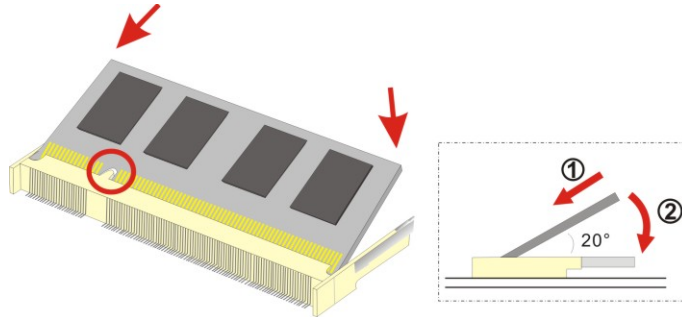

Figure 4-1: SO-DIMM Installation
To install an SO-DIMM, please follow the steps below and refer to Figure 4-1.
- Step 3:** Insert the **SO-DIMM**. Push the memory in at a 20° angle. (See **Figure 4-1**)
- Step 4:** **Seat the SO-DIMM**. Gently push downwards and the arms clip into place. (See **Figure 4-1**)